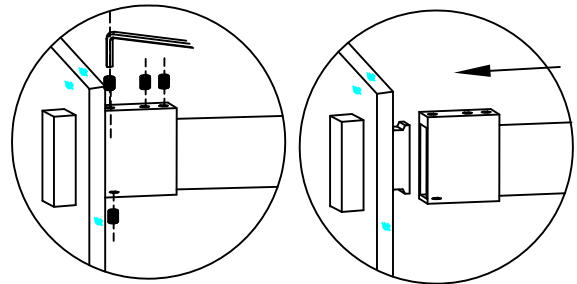

Fig. 18
18. Position the top rail / fixed glass assembly into place in your shower opening. Next connect Rail Mount (23) to stainless steel fitting by sliding rail mount over stainless steel fitting and tightening set screws in rail mount to secure to Top Rail (2). See Fig.18 for details.